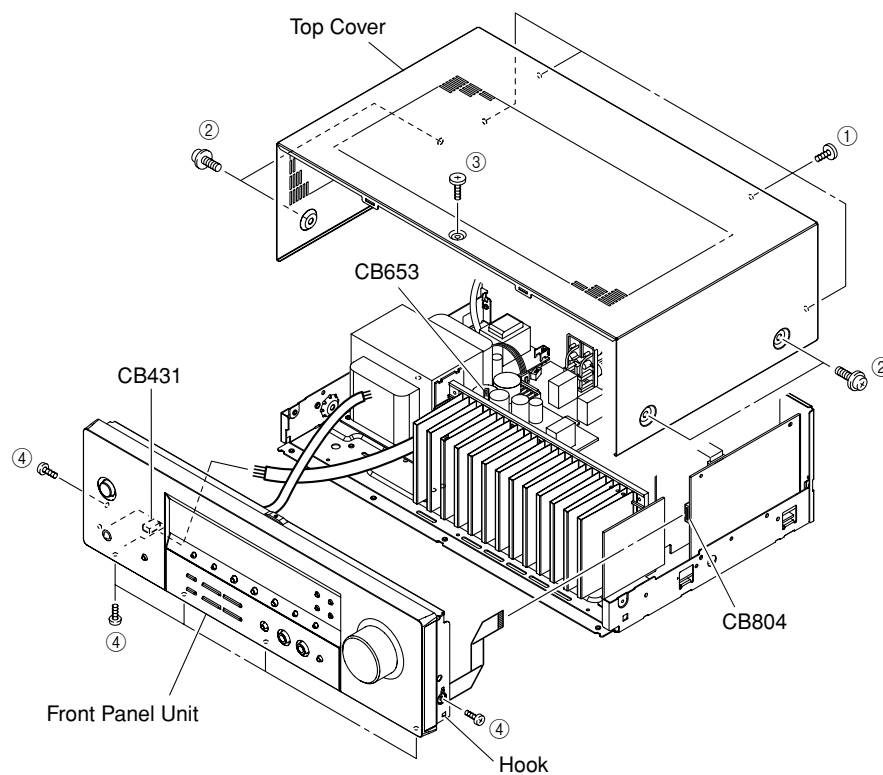

Fig. 1
- a. Remove 4 screws (①), 4 screws (②) and 1 screw (③). (Fig. 1)
- b. Slide the Top Cover rearward to remove it. (Fig. 1)
- b. Remove CB431, CB653 and CB804. (Fig. 1)
- c. Remove 6 screws (④). (Fig. 1)
- d. Release a hook on the right side of the Front Panel Unit, then remove the Front Panel Unit forward. (Fig. 1)